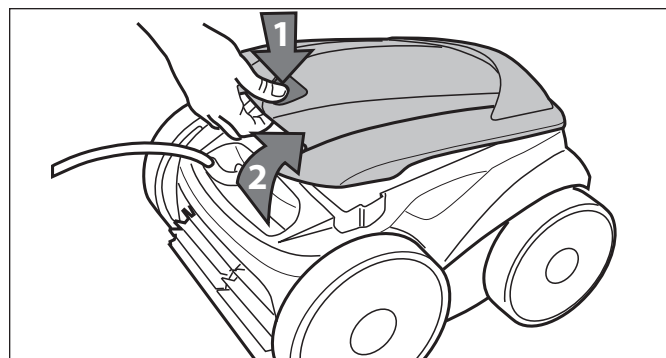

Figure 21. Lift Cleaner Cover
4. To remove the filter from the cleaner, follow the steps 1 through 6 (Figures 21 through 24).
5. Push the cover lock (1) and lift the cover (2) until it is secured in the vertical position. Refer to Figure 21.